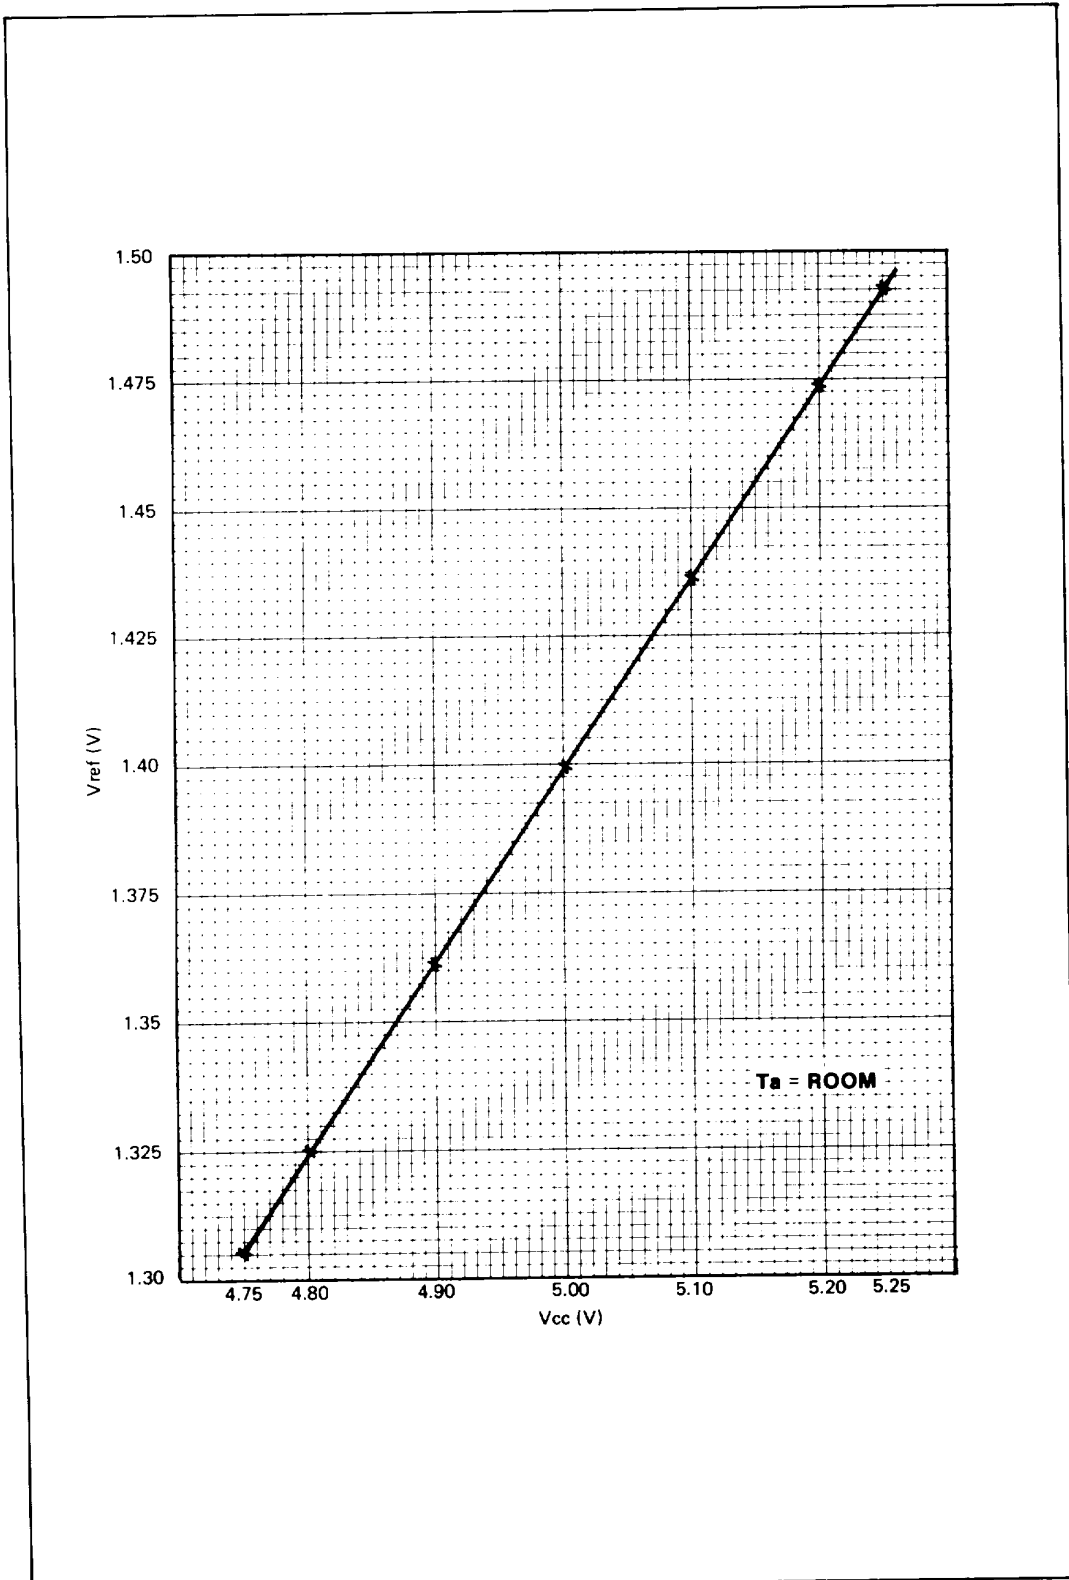

Figure 5-1. Data Probe VCC-Vref Graph
- c. Connect the positive test lead to U1(5). Compare this voltage with the Vref voltage corresponding to the Vcc (step b) on Figure 5-1.
**Figure 5-1 is a graph relating the U1 pin 5 voltage to U1 pin 7 voltage.**